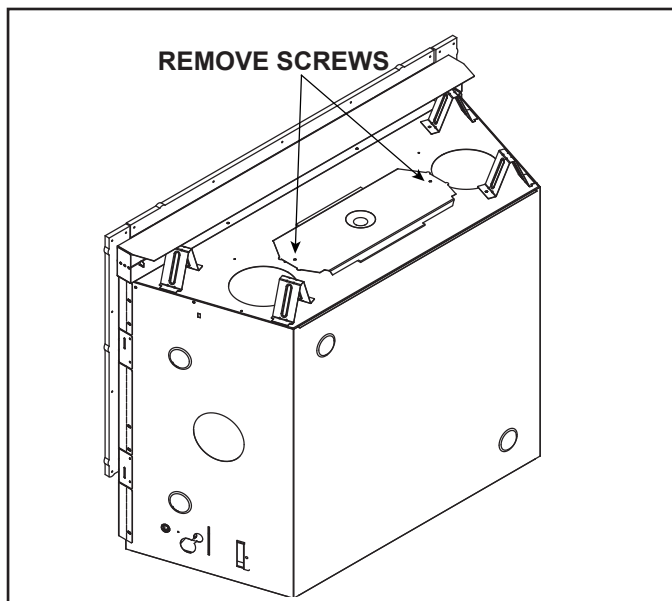

Figure 6.1 JADE42IN-B / JADE42IL-B - Shipping Position
1. Remove two screws and discard. See Figure 6.1.